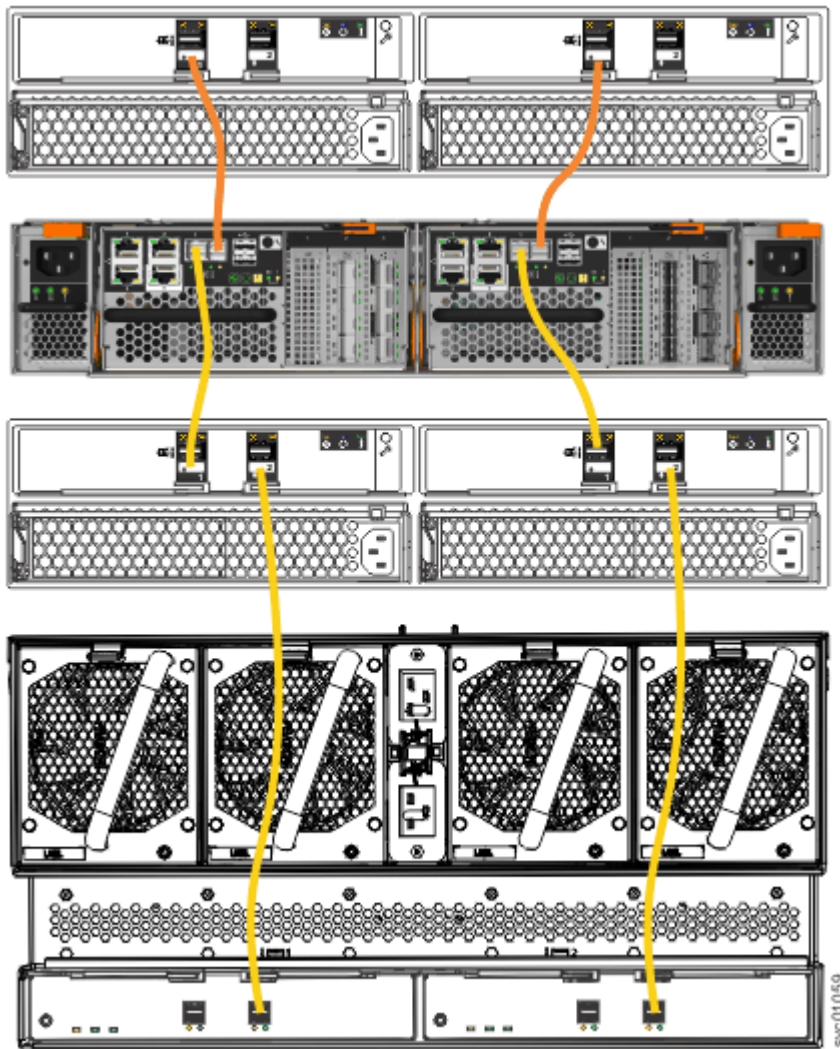

Figure 124. Connecting the SAS cables
1. Install the cables, as shown in Figure 124 on page 110.
Note: Figure 124 on page 110 shows the cable connections between the SAS enclosures and the Storwize V7000 Gen2 control enclosure. It does not imply or represent the precise racking order for the enclosures in a rack. However, due to its size and weight, always place the 2076-92F enclosure near the bottom of the rack.
As Figure 124 on page 110 shows, you can combine , , and 2076-92F enclosures in a SAS chain. The limiting factor is the combined *chain weight* of the various components. The maximum SAS chain weight that can be attached to a node SAS port is 10: